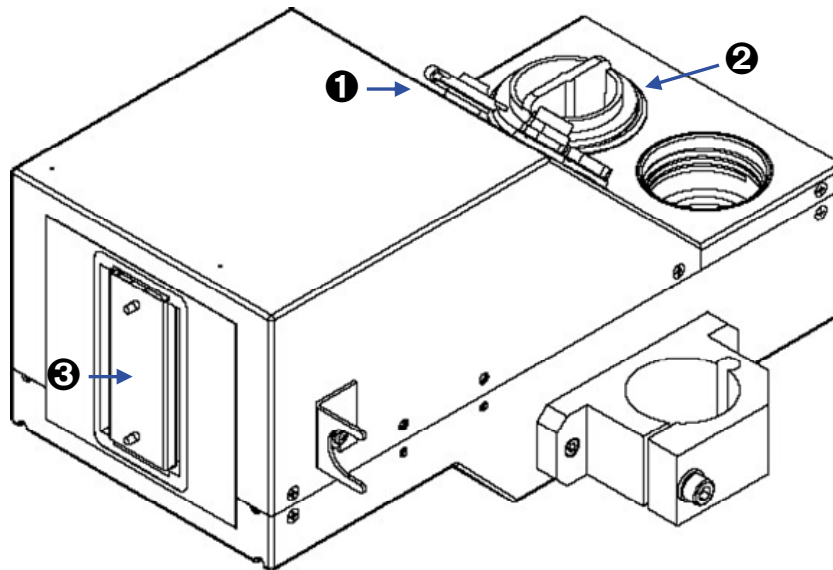

Fig. 7.1.1.
- a). Close the ink-pot vent with a cap **1** (see Fig. 7.1.1.).
- b). Screw out the bottle of ink (see section 2.3.5 Installing a new Bottle of Ink \(or Replacing an Empty One\)) and screw home the ink-pot plug in order to make the ink pot tight **2** (see Fig. 7.1.1.).
- d). Install and snap a seal cover **3** (see Fig. 7.1.1.) to protect the nozzles against dust and the drying of ink inside the nozzles.